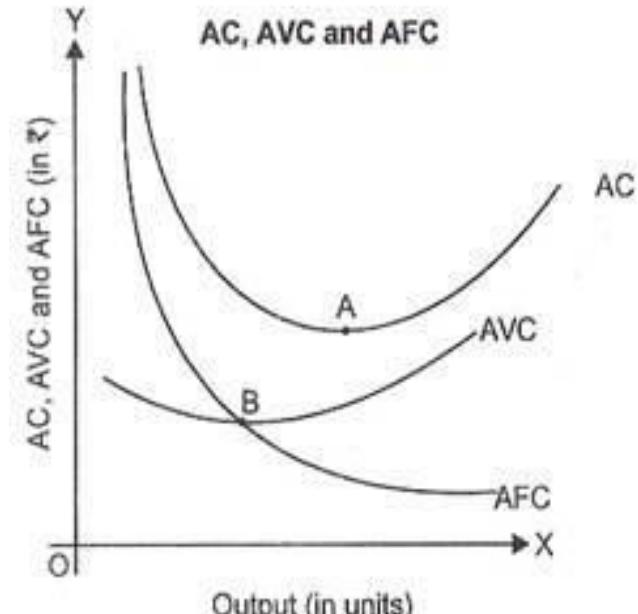

Fig. 6.7
1. AC curve will always lie above the AVC curve (See Fig. 6.7) because AC, at all levels of output includes both AVC and AFC.